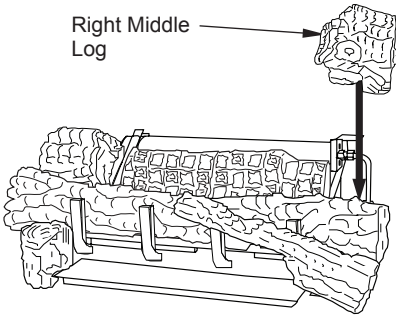

Figure 43 - Installing Right Middle Log
7. The right middle log (18" D-067, 24" & 30" D-041) has a groove on the bottom to sit on the chassis and has to sit on the tab on the back of the right front. The right middle log should have a recess area that fits around the ramp log as shown in Figure 43.